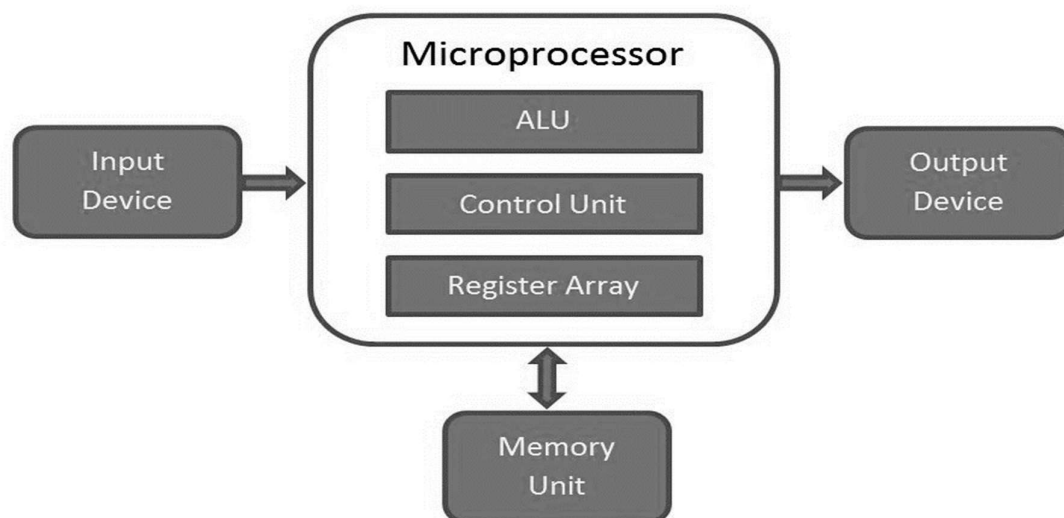
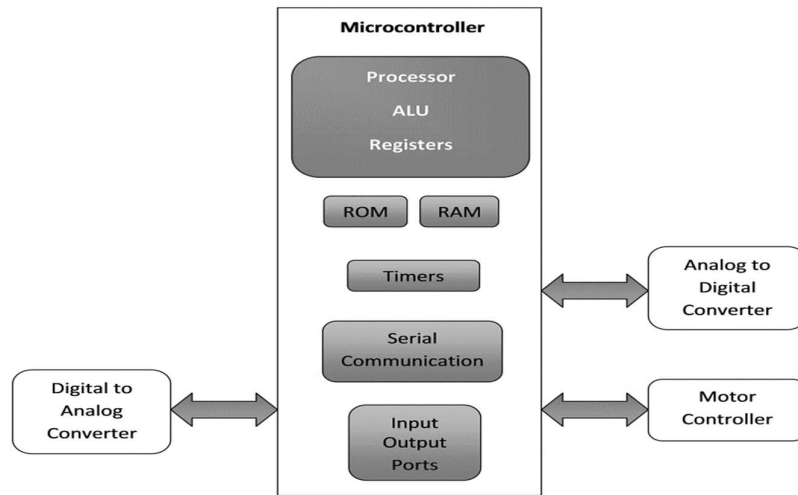

Fig.1.3: General-purpose computing system with microprocessor as CPU
Fig.1.4: Basic architecture of Microcontroller
Microprocessor is a programmable logic device, built on electronic circuit, which is capable of taking binary instructions from a storage device called *memory*, operates on binary data (*input*) according to the instructions and produces results (*output*). Usually, microprocessor is the essential part of a general-purpose computing system. A typical programmable computing system consists of four components: microprocessor, a high-speed memory, input and output devices as shown in Fig.1.3. Any users program can be carried out using these four components often known as the *hardware*. Users *program* is nothing but a set of instructions. A group of programs is commonly known as *software*. Such a system can be used to carry out any mathematical function or it can be used to design traffic light control. Depending upon the type of applications, such a system can be simple or highly sophisticated (high performing). Accordingly, the microprocessor can be implemented to design reconfigurable processors, domain specific processors and application specific processors apart from general purpose. However, we can in general classify the microprocessors into two categories-*reprogrammable systems* and *embedded systems*. In reprogrammable systems such as microcomputers, the microprocessor is used for computing and data processing. Such a system includes a general-purpose processor, a mass storage device, such as disk and CD-ROMs and peripheral devices such as, printers, scanners: personal computer (PC) is a perfect example for this. While in embedded systems, the microprocessor is used for specific task and it is not reprogrammable to the end users. It is a part of the consumer product. Microprocessors used in such a system are categorised as *microcontrollers*, which includes the components as shown in Fig.1.4. Microcontroller is essentially an entire computer on a single chip which houses, memory, I/O interfacing circuits, A/D converters, serial I/O and timers. While embedded systems can be viewed as products or systems that use microprocessor or a microcontroller to perform a specific task. Examples of embedded systems include, Washing machines, digital cameras, traffic light control, automobile dashboard control, antilock braking system in smart cars, cruise control and many more.
We have seen so far microprocessor as the essential component of a digital computer. The structure of a computer is represented in the form of block diagram as in Fig.1.3. It has four major components: memory, input, output and the central processing unit (CPU). The CPU is comprising of an arithmetic/logic unit (ALU) and the control unit. It also contains some internal registers to store data temporarily.